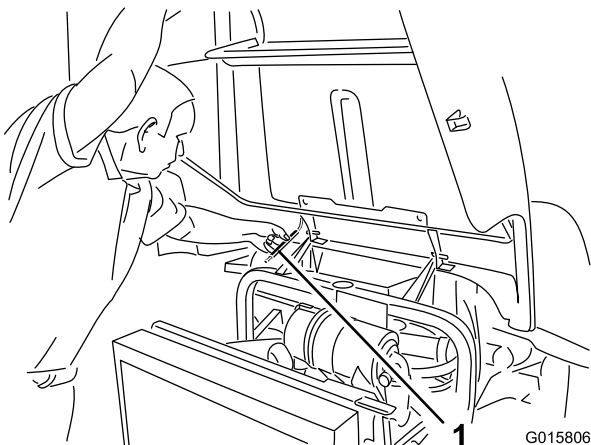

Figure 23
2. Lift up on the hood until the prop rod can be positioned behind the frame tube (Figure 23).